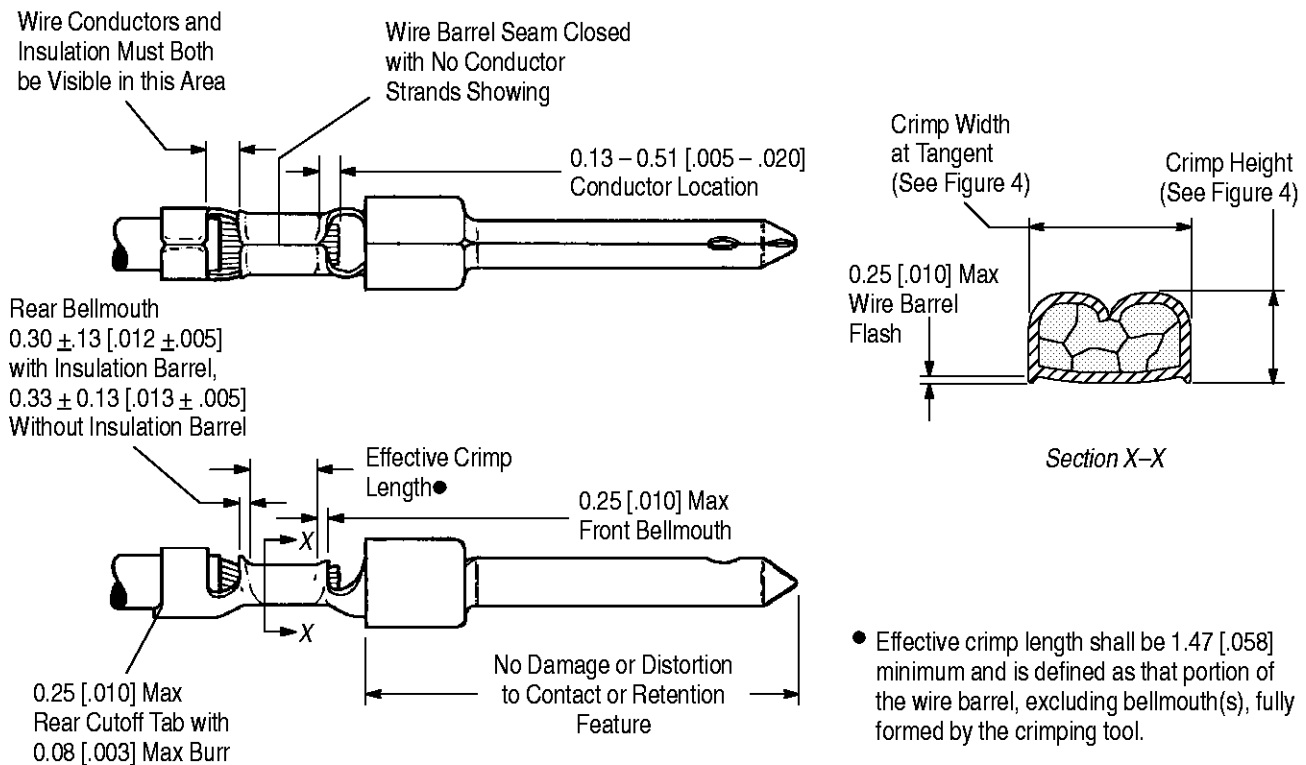

Figure 3
- Changed rear bellmouth dimensions in Figure 3
The contact wire barrel shall be crimped to an F-Crimp configuration as shown in Section X-X of Figure 3. The insulation barrel (when present) shall be crimped to an O-Crimp configuration. Refer to the table in Figure 4 for crimp dimensions.
Figure 3 shows a typical contact as it should appear after crimping. Although a pin contact with insulation barrel is shown, the requirements apply equally to socket contacts, and to contacts not having an insulation barrel.